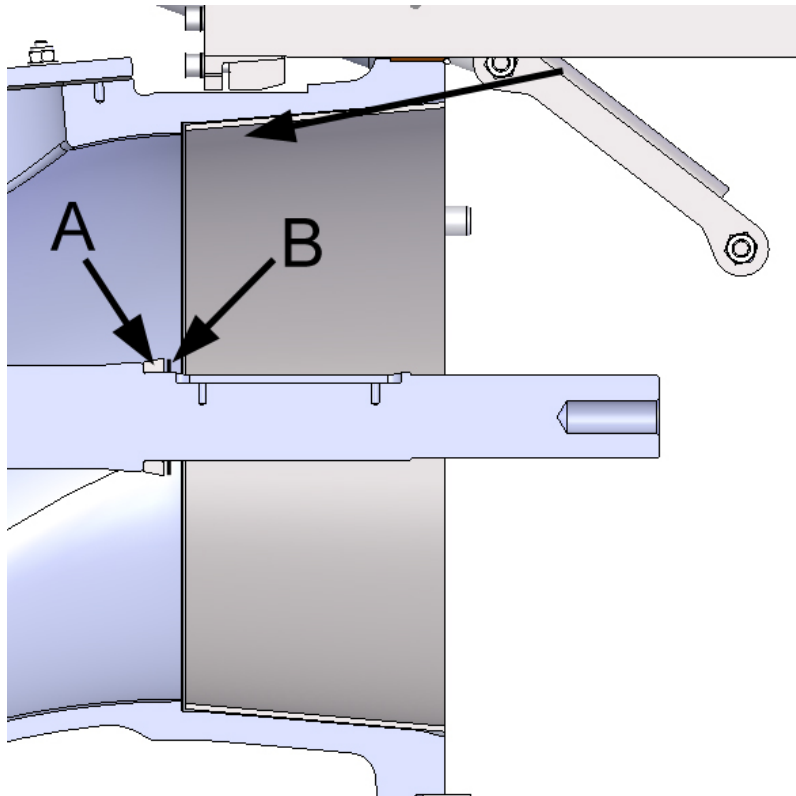

Figure 29. The spacer ring and the sleeve on the shaft
The thrust caused by the impeller is transmitted to the shaft through the sleeve (figure 29, point B) and the spacer ring (figure 29, point A). The sleeve consists of shim washers of varying thicknesses. The length of the sleeve can be adjusted in increments of 0.5 mm (approx. 0.02") by changing the number of shim washers. This way the impeller gap on the outer race becomes fit.
2. Push the spacer ring (figure 29, point A) and the sleeve (figure 29, point B) onto the shaft.